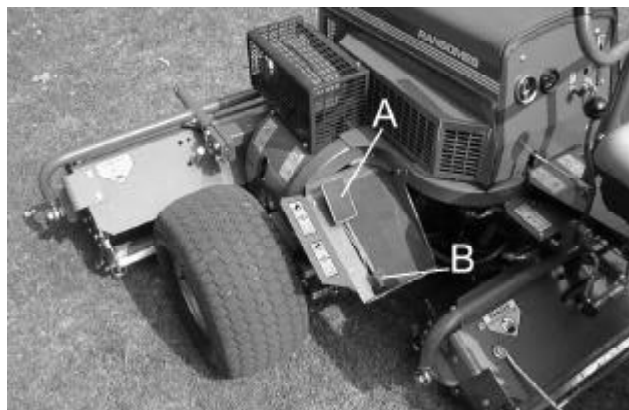

Fig.5
**PARKING BRAKE (B Fig.5)**
**PARKEERREM (B in Afb. 5)**